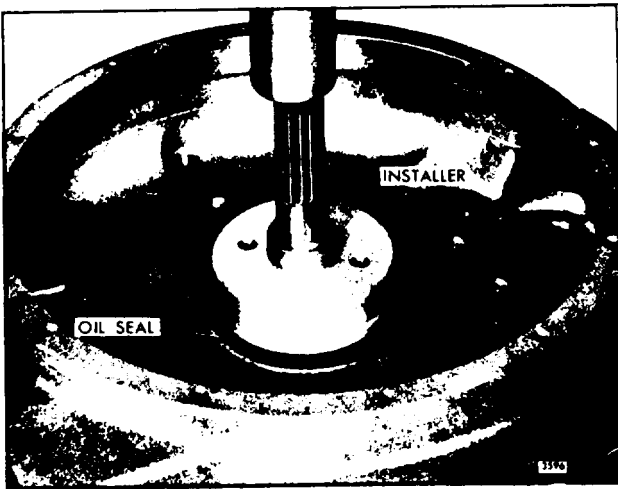

Fig. 5. Installing Oil Seal in Flywheel Housing
4. Use installer J 9479 to press the oil seal into the flywheel housing until the seal is flush with the outside face of the housing (Fig. 5).